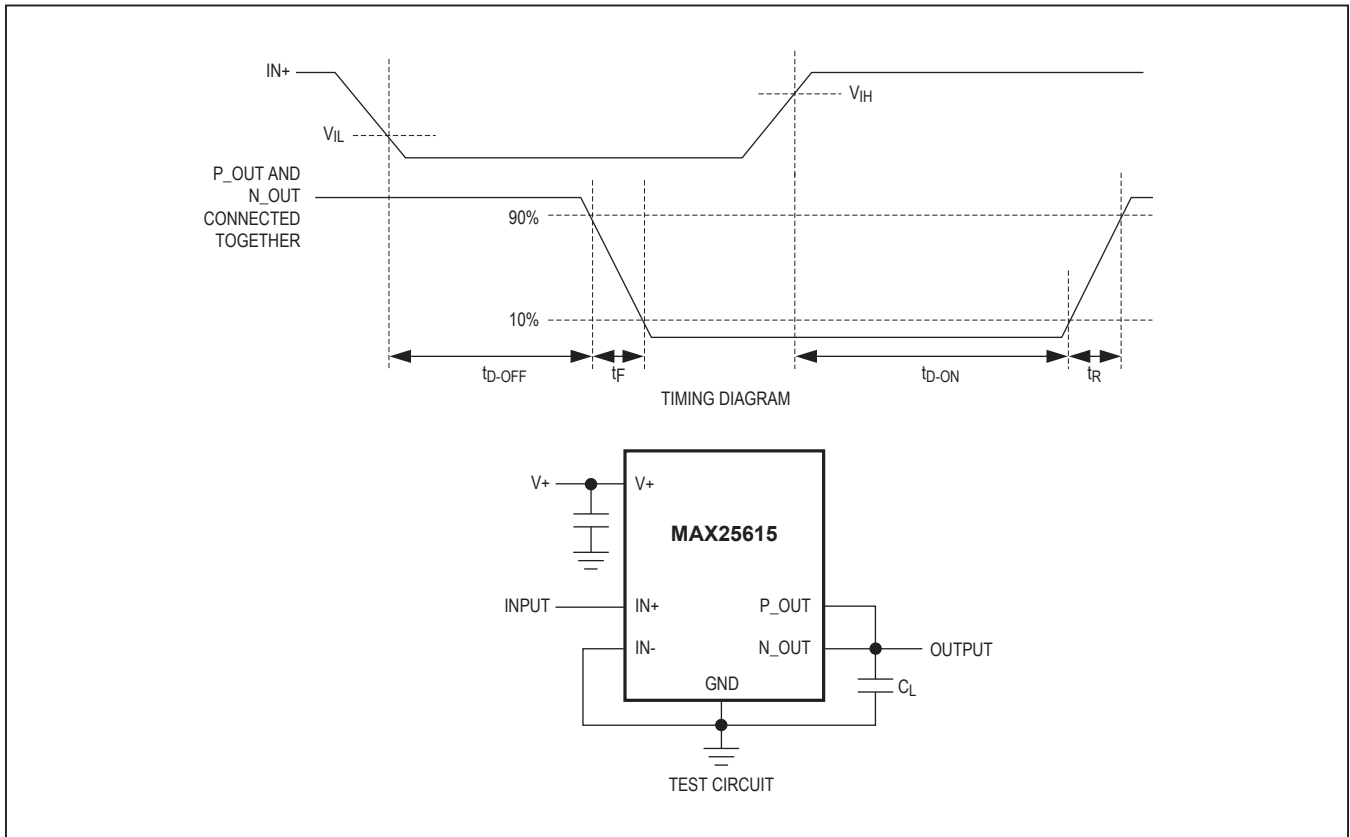

Figure 1. Timing Diagram and Test Circuit
(V+ = +12V, CL = 0F, TA = TJ = -40°C to +125°C, unless otherwise noted. Typical values are at TA = +25°C. see Figure 1.) (Note 3)
**Electrical Characteristics (continued)**(V+ = +12V, CL = 0F, TA = TJ = -40°C to +125°C, unless otherwise noted. Typical values are at TA = +25°C. see Figure 1.) (Note 3)
SWITCHING CHARACTERISTICS FOR V+ = +12V (Figure 1)
SWITCHING CHARACTERISTICS FOR V+ = +4.5V (Figure 1)
( $C_L = 1000\text{pF}$ ,  $T_A = +25^\circ\text{C}$ , unless otherwise noted. See Figure 1.)